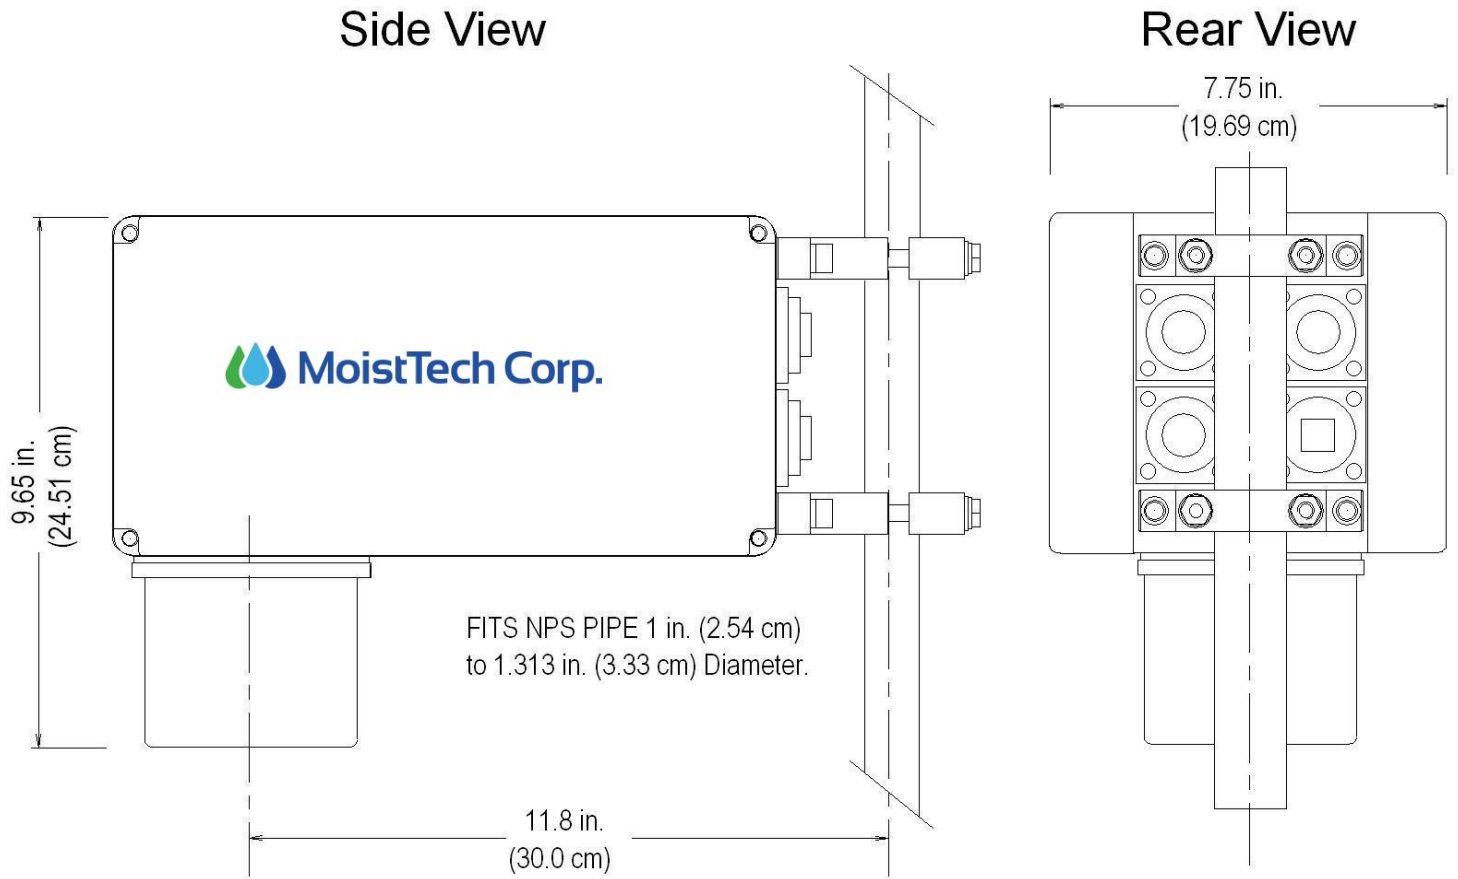

Figure 1. Pole Mount to Rear of Gauge
- Figure 1: Pole Mount to Rear of Gauge
The 3000 series gauges include two removable mounting brackets. These brackets may be installed to provide flexible mounting options. The most common configuration, the one provided from the factory, is a vertical mounting with the two mounting clamps positioned on the rear connector-end of the gauge. Figure 1 illustrates the rear mounting configuration.